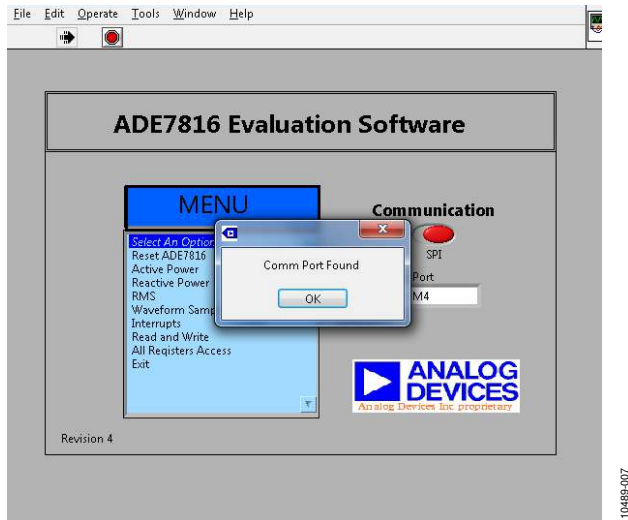
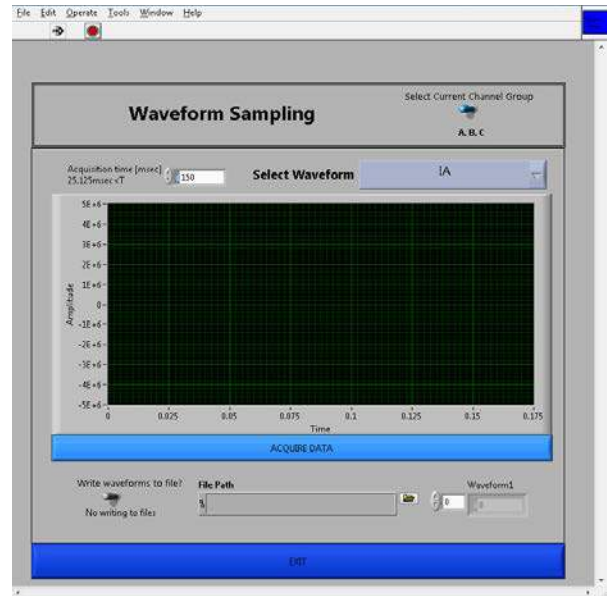

Figure 7. **ADE7816** Evaluation Software Main Window
Figure 13. Waveform Sampling Window
When the evaluation software is running, it automatically detects the COM port that the **ADE7816** evaluation board is connected to. If the port detection is successful, the COM port number appears in the **Port Control** field, as shown in Figure 7 (COM4 in this example).
1. Click **Yes** to return to the **ADE7816** Evaluation Software main window (see Figure 7).
The ADE7816 evaluation software allows access to all registers and features of the ADE7816 using SPI, I²C, and HSDC communication. By default, the evaluation board is configured to be used with SPI. To change the mode of communication to I²C, change the JP31, JP32, JP33, and JP34 jumpers to Position 1, Position 2. Then, change the communication switch in the main window of the evaluation board software to I²C (see Figure 7). Once a menu option is selected, the communication mode locks. To change the communication after this time, the ADE7816 must be powered down by removing the power on P9.
These options provide access to all internal registers and allow the evaluation of the performance of the ADE7816 (see Figure 7). To access these functions, click the desired option in the MENU panel. Click on an option under MENU to display a window where the specific function can be accessed.
The **Waveform Sampling** window is shown in Figure 13. To use the **Waveform Sampling** window, I²C must be selected as the communication interface (see Figure 7) in the **ADE7816 Evaluation Software** main window. The I²C interface is used in conjunction with the HSDC interface (see the **ADE7816** data sheet).
Next, go to the **ADE7816 Evaluation Software** main window and click **Exit** from the menu drop-down list (see Figure 7). Verify that the correct COM port is selected and ensure that the currently configured communication mode is selected in the pull-down list. Refer to Table 1 to verify that the correct jumpers are installed for the selected communication interface.